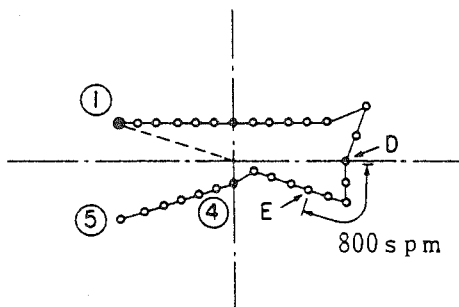

Fig. 8
Step 29 Move the needle to position D shown in Fig. 8. Then press the and keys until [Point speed changing] is shown by the LED. Then press the key.
Step 32 Move the needle using the and keys, and confirm that the sewing speed for the section shown in Fig. 8 has been changed by checking the indication on LED.